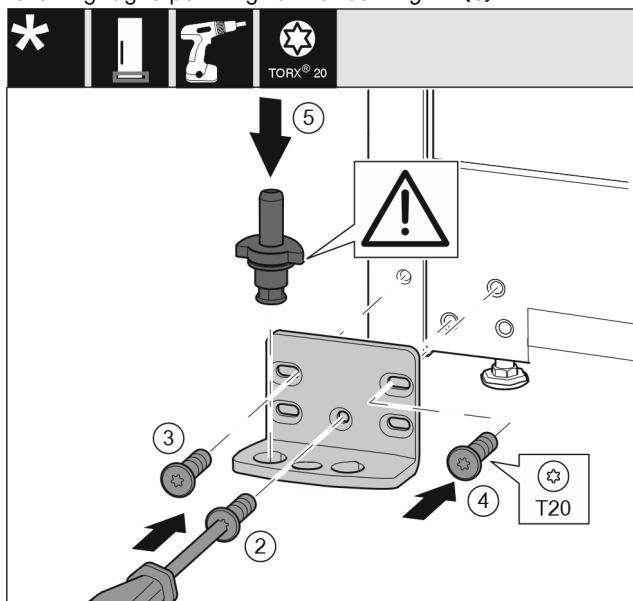

Fig. 15
- Place the bearing bracket on the other side and screw it in using the T20 screwdriver. Start with screw 2 at the bottom in the middle. Fig. 15 (2)
- Screw in screws 3 and 4. Fig. 15 (3,4)
- Insert the bearing pin completely. Make sure that the latching lug is pointing to the rear. Fig. 15 (5)